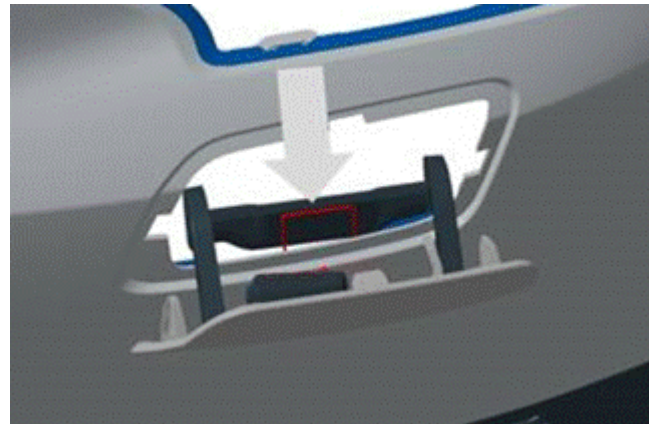

Figure 6. Improved version cover spring clip.
5. Figure 6 shows the improved spring clip with reduced tension.